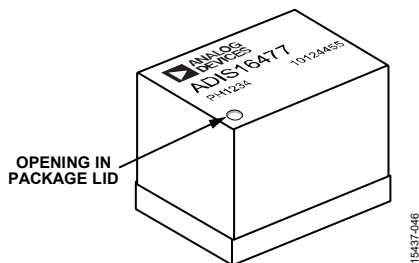

Figure 50. Pressure Relief Hole
- The hole in the top of the lid (see Figure 50) provides venting and pressure relief during the assembly process of the ADIS16477. Keep this hole clear of obstruction while attaching the ADIS16477 to a PCB.